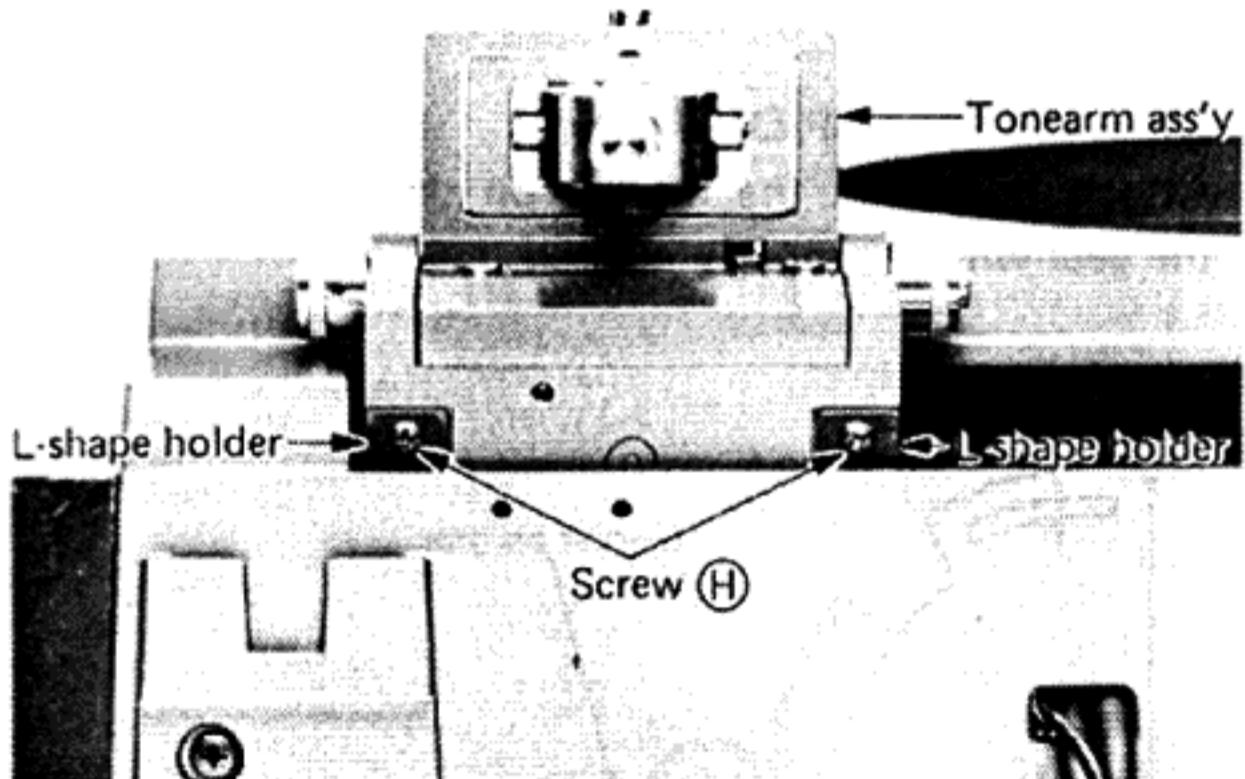

Fig. 4
- 10) With the set placed in its normal position, remove the two screws **H** and detach the L-shape holder. (Refer to Fig. 4)